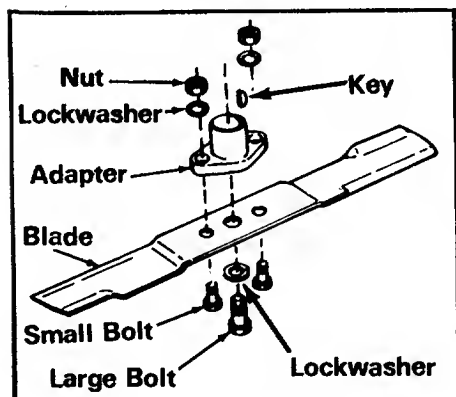

Figure 16
- 1 Remove the large bolt and lockwasher holding the blade and adapter to the engine blade spindle. (See figure 16.)
- 2 Remove the Belt Keeper and Shoulder Bolt on the engine pulley. (See figure 16.)